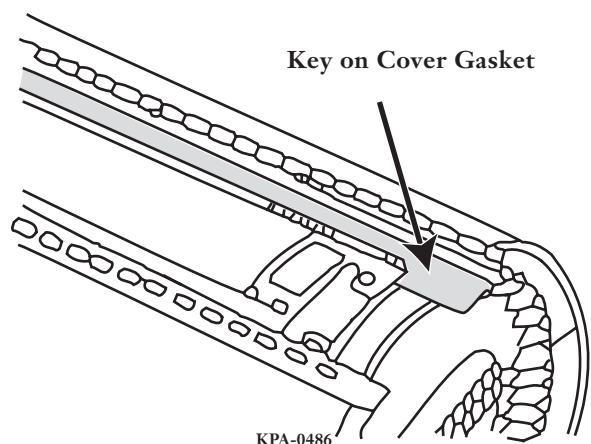

Figure 44 — Install Inline Cover
- Step 1** Center the cover over the end caps with the key on the cover gasket opposite the clip on the end cap gaskets (Figure 44). Make sure the end caps are inside the end cap stops on each end of the closure cover.